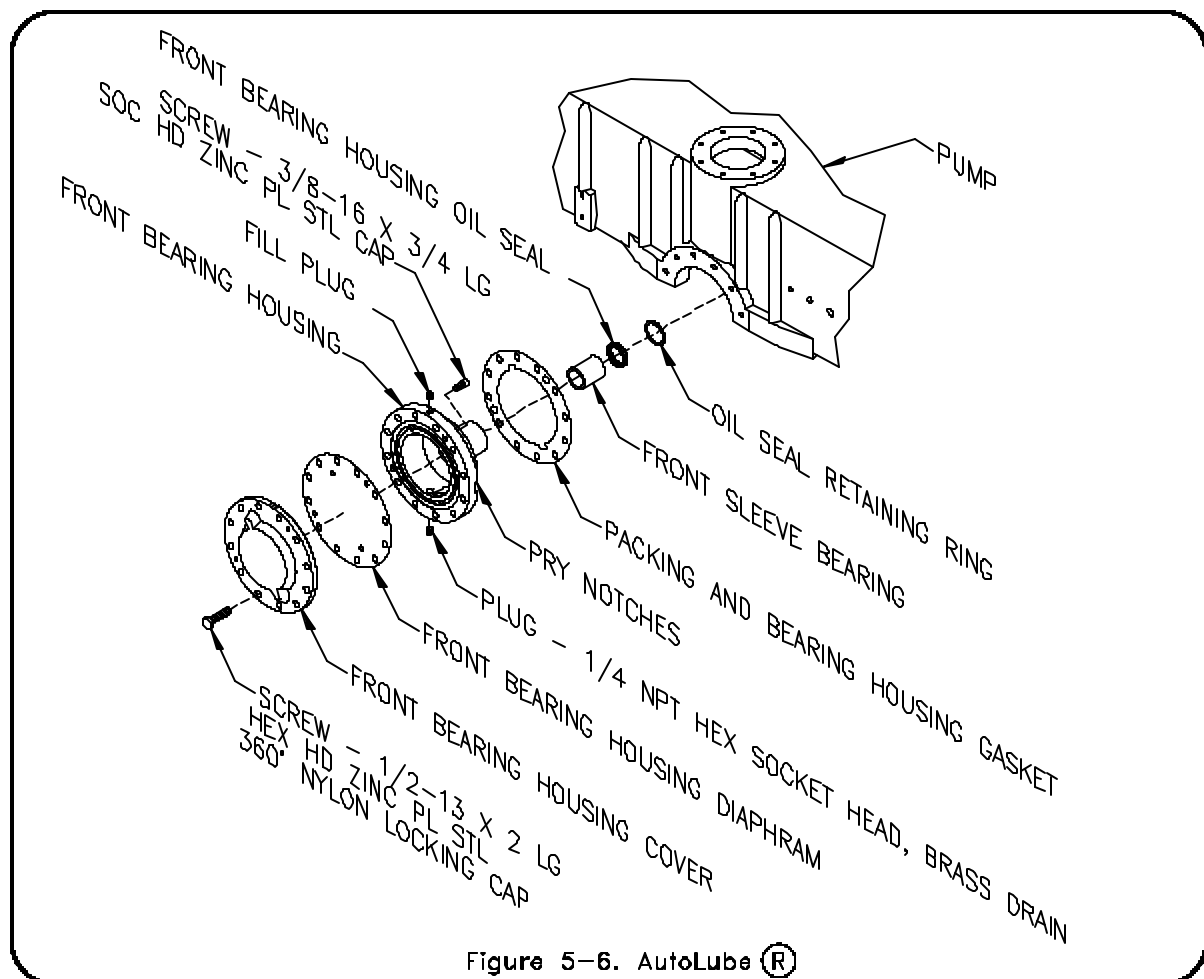

Figure 5-6. AutoLube®
5. Remove the cap screws attaching the AutoLube®, figure 5-6, to the pump body and gently pry AutoLube® from the pump body and impeller shaft.
13. If it is necessary to replace the impeller shaft bushing, press the bushing from the inner side of the inner half of the AutoLube® (on the side opposite of the impeller). Install the bushing from the impeller side of the inner half of the AutoLube®. See figure 5-6.